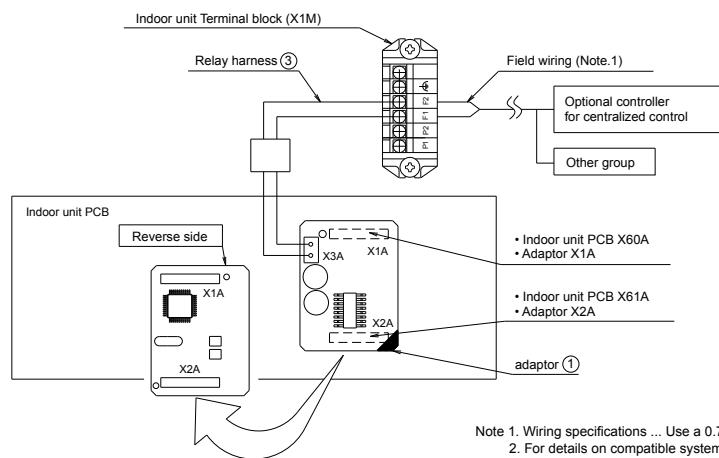

Fig.2
- Insert the Relay harness ③ into the connector of the Adapter ①.(Fig.2)
- Connect the Relay harness ③ with the terminals F1 and F2 on the terminal block(X1M). (Fig.2)
- Connect the wires from the terminals F1 and F2 to the centralized control. (Fig.2)